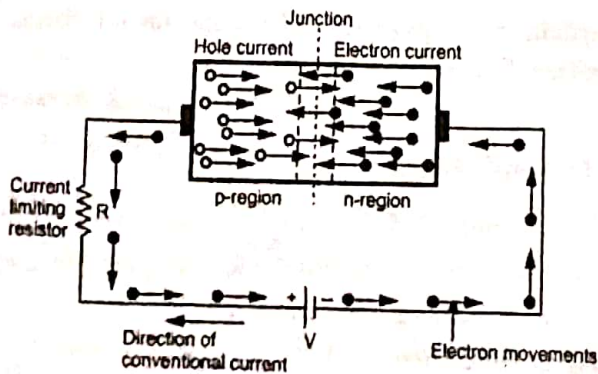

Fig. Q.5.2 Forward current in a diode
- The forward current in a diode is shown in the Fig. Q.5.2.